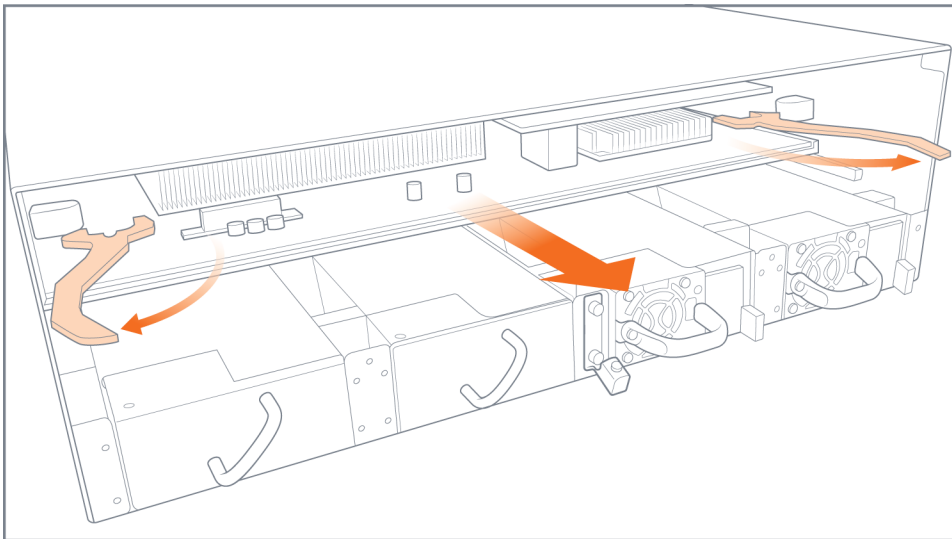

Figure 18: Control Card Ejector Handles
4. Swing both ejector handles outward as shown in Figure 18: Control Card Ejector Handles.